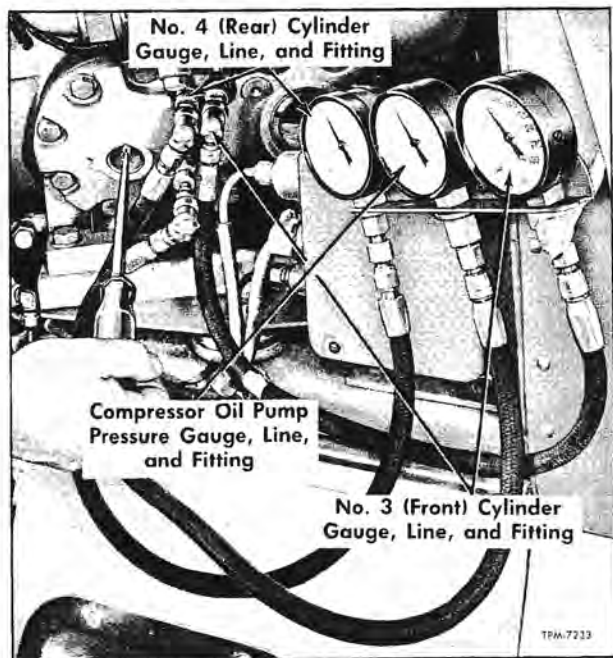

Figure 132—Checking Compressor Unloading Pressures
- a. Remove hex plug from over unloader adjustment screw as shown in figure 132.
5. If difficulty is encountered in definitely observing unloading on suction gauge, individual gauges can be used to determine performance of each unloader without question. Figure 132 shows individual gauges installed. NOTE: If compressor is not already equipped with check valve connectors at compressor line ports, pump down system and install No. 2376095 check valve connectors. Connect gauge lines to connectors.